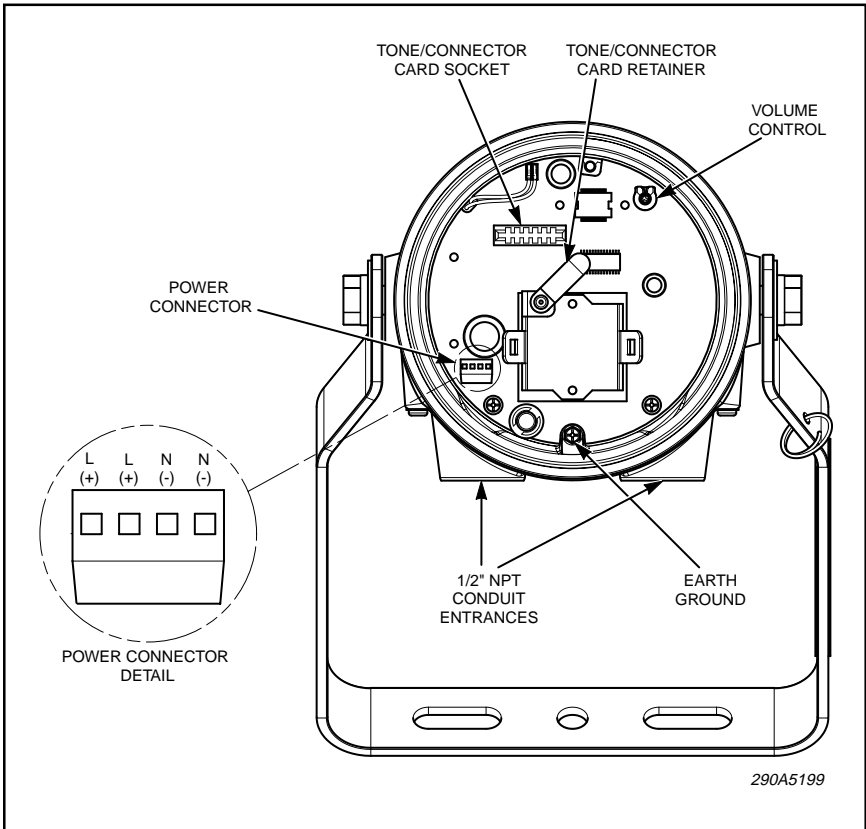

Figure 2.
The speaker can be mounted on any relatively flat surface capable of supporting the speaker's weight. Conduit connections can be made to the 1/2" NPT threaded openings at bottom of the housing (see figure 2).
a. Plug the desired tone card (purchased separately) into the socket as shown in figure 2.
c. See figures 2 and 5. Connect the power source positive (+) lead to the terminal block labeled (+). Connect the power source negative (-) lead to the terminal block labeled (-). Connect the additional (+) and (-) terminal blocks to the next unit or to an end of line device.
a. Plug the desired connector card (purchased separately) into the socket as shown in figure 2.
c. See figures 2 and 6. Connect the power source positive (+) lead to the terminal block labeled (+). Connect the power source negative (-) lead to the terminal block labeled (-). Connect the additional (+) and (-) terminal blocks to the next unit or to a power supervision relay.
A. After installation is complete, be sure to test the system to verify that each amplified speaker operates satisfactorily. If it is found that the unit is too loud for its location, an internal volume control can be adjusted. Remove the housing cover and insert a slotted electricians' type screwdriver into the volume control shown in figure 2. Gently turn the control counter-clockwise to decrease the sound output to the desired loudness. Reinstall the housing cover.